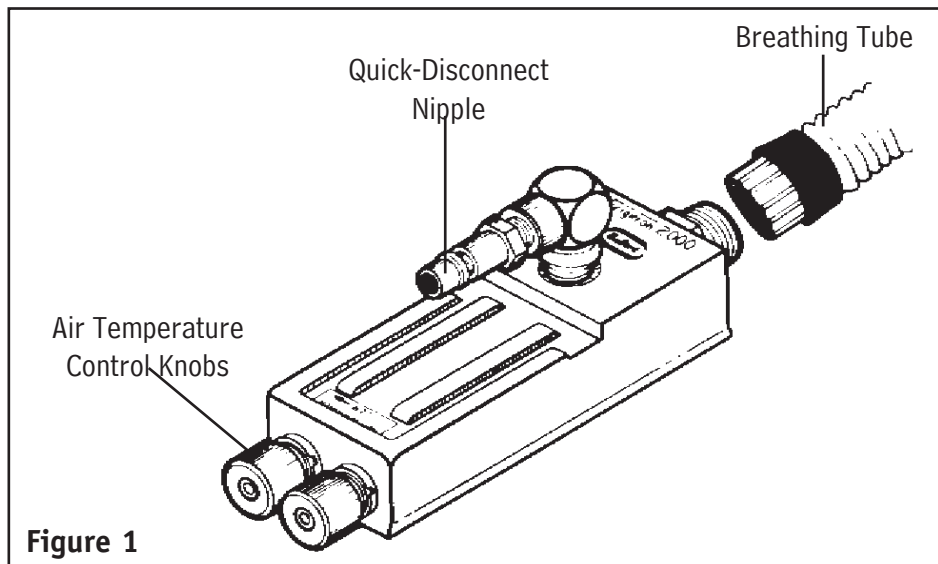

Figure 1
The vest should mount over the belt with the Dual-Cool unit positioned in the "V" of the vest found on the right-hand side **(Figure 1)**.
6. To obtain cooler air, turn either or both of the air temperature control knobs clockwise (Figure 1).